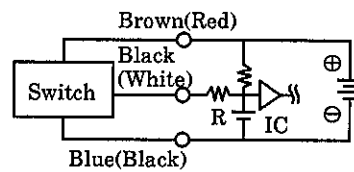

Fig. 8 An example of using capacitor type load together with current regulating resistor R. Comply with the following formula to figure out required R.
- Install some protective circuit as illustrated in Fig. 8 when capacitor type load (Capacitor type) are to be used, because these types apt to generate a dash current when turning the switch ON.